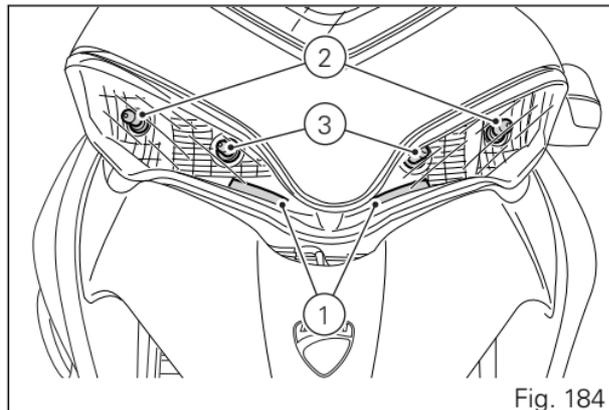

Fig. 184
(Fig. 184) shows the location of the LED parking lights (1), the LED low beams (2) and the high beam bulbs (3).